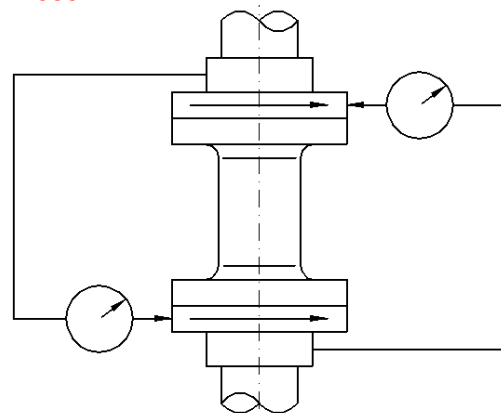

Figure 4.3
- Using the coupling nut or the draw holes, clamp on the driven machine half-coupling a suitable extension arm or bracket sufficiently long to extend across the space between the driven machine and driver coupling hubs. Attach to the bracket as shown in Fig.4.3 a dial indicator with the probe resting on the outer diameter of the driver half-coupling to check both parallel and angular alignment. For angular alignment rotate both the driver and driven shafts together making sure that the indicator probe always rests on the same point. Take readings at every quarter turn. For parallel alignment rotate the driven shaft with the probe resting on the O.D. of the driver half-coupling. Take readings at every quarter turn.